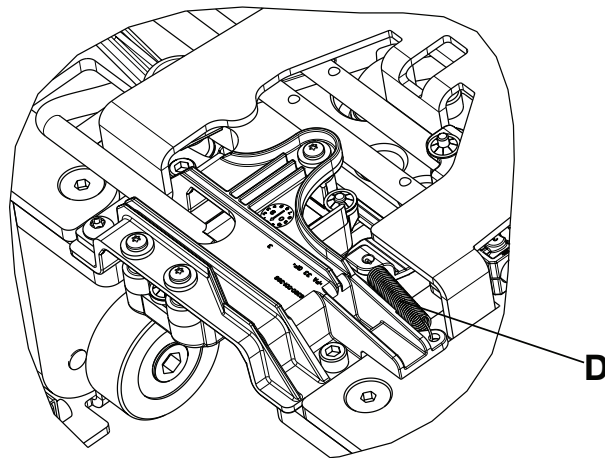

Figure 29 – Return spring location
5. Remove the return spring (D) (Figure 29). Save for reinstallation.